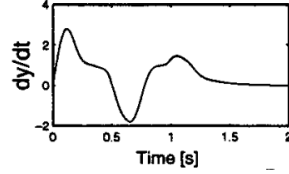

Figure 3.11: Value tracking: x as joint position and velocity profile \dot{x} .
- The 2nd system dynamic behavior is simply analogous to value tracking: variable x goes to target value g , the velocity v starts and ends at 0 (Fig. 3.11).